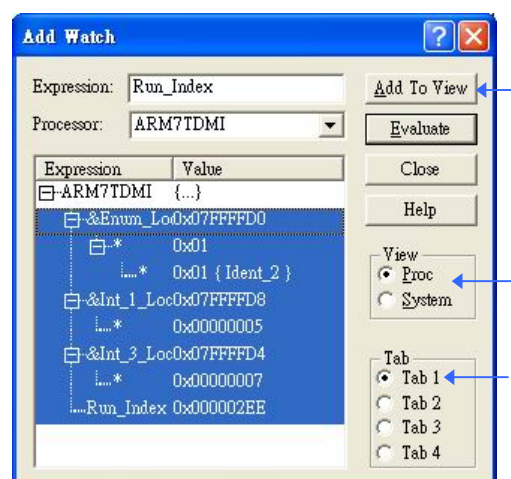

Figure 16. Specifying variables to watch.
- 7.3 Expand these lines. The result is shown in Figure 16.
8. Select all the lines you have entered, as shown in Figure 16, ensure that **Proc** is the selected View and **Tab1** the selected Tab, then click the **Add To View** button and the **Close** button.